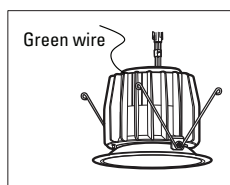

Figure 1
- Disconnect and discard the E26 Adaptor from module (see Figure 1).